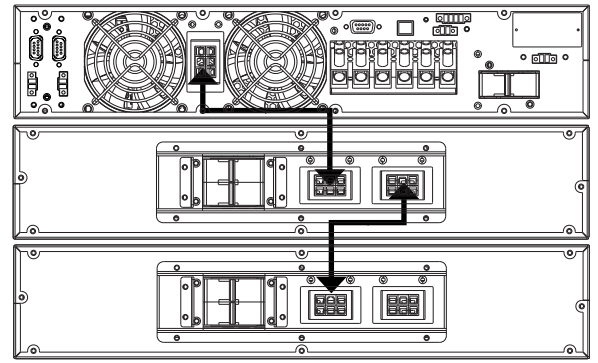

Fig. 21. Connection to battery modules.
- Fig. 21 shows the connection of a 10kVA device in a rack arrangement with two battery modules. For a larger number, proceed in a manner similar to those shown in the illustration.